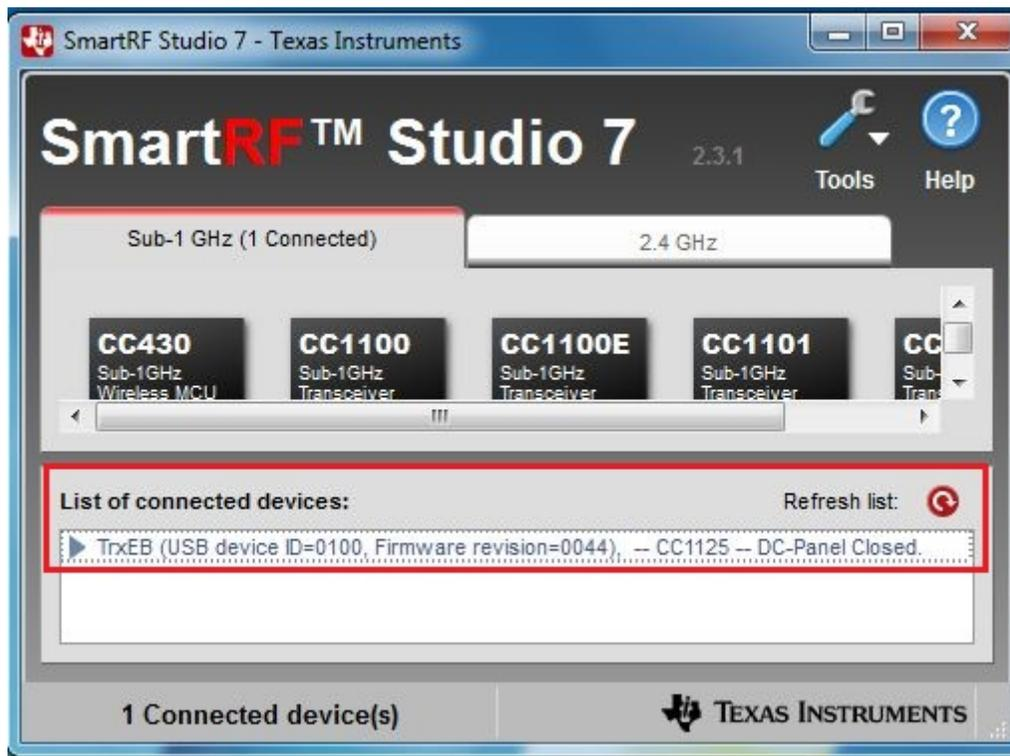

Figure 8. SmartRF Studio Window
1. Open SmartRFStudio on the PC. It shows “CC1125 “in the List of Connected Devices Window. A screen shot of SRS window is shown in Figure 8.